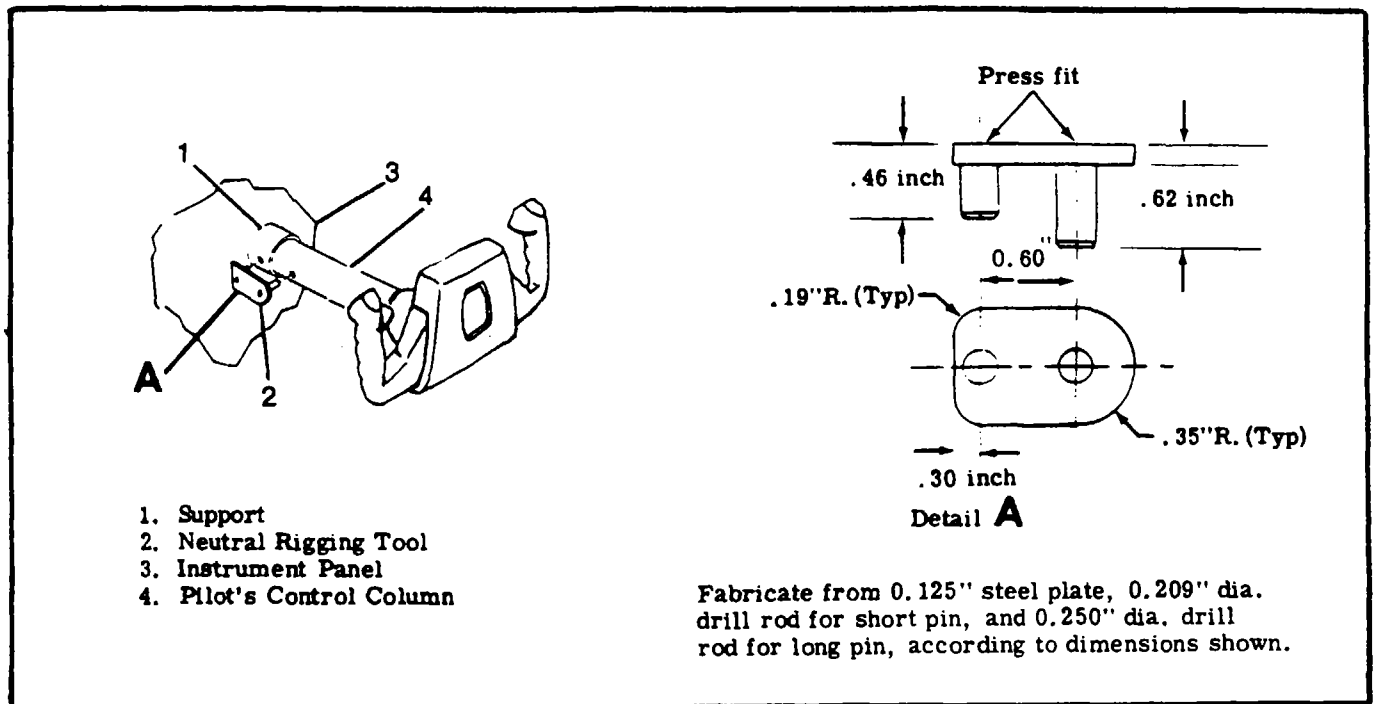

Figure 8-5. Control Column Neutral Position Rigging Tool
- b. Lock control column in neutral position per figure 8-5.